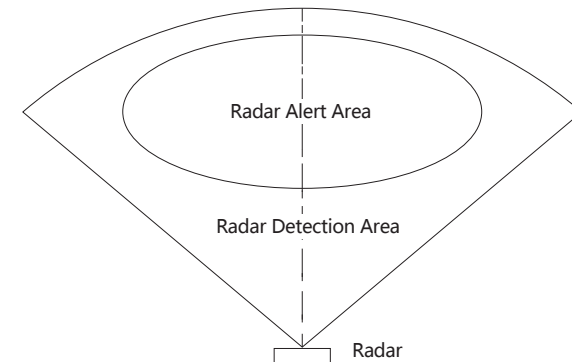

Fig.2-4
- Radar is installed in front of the detection area and aligns with the center of alert area, as shown in Fig. 2-4.